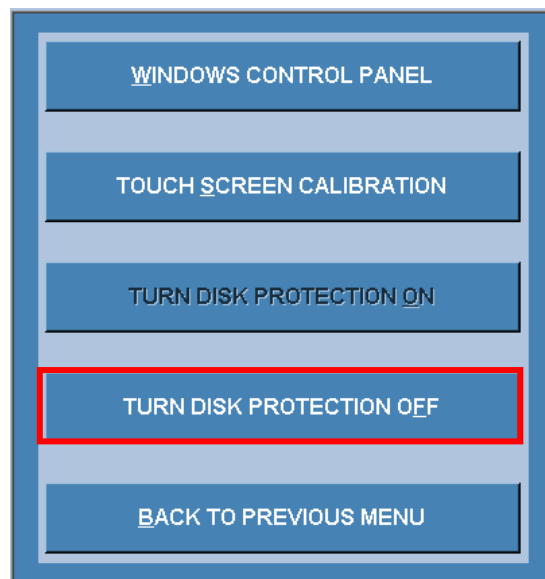

Figure 10.5 – Select Turn Disk Protection Off
10. Select **Control Panel** from the K86200 / K86201 Control Panel menu (see Figure 10.5).